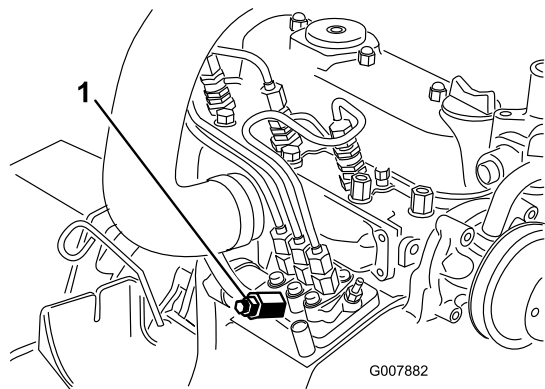

Figure 36
3. Place a rag under the air-bleed screw on the fuel-injection pump and open it (Figure 36).